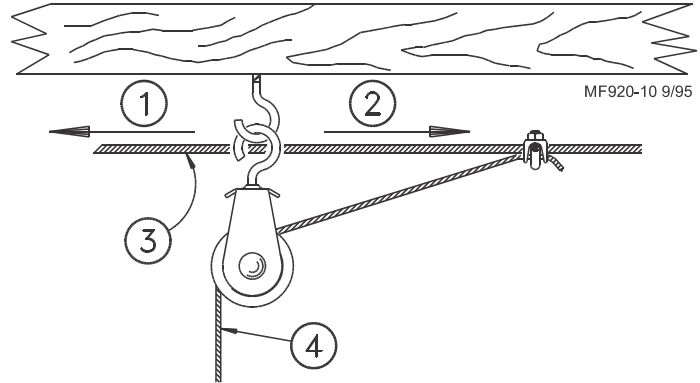

Figure 12.Screw Hook Installation (Side View)
Screw Hooks or Ceiling Hooks may be used to suspend the feeder line. Refer to the appropriate instruction, below. Screw Hook installation is shown in **Figure 12**. Ceiling Hooks installation is shown in **Figure 12** through **19**.
Screw the hook into the truss the full length of the threads to prevent bending. The openings of the screw hooks must be pointed away from the direction of travel when the Power Winch raises the feeder line. (See **Figure 12**.)
2. Thread the end of the 3/32" or 1/8" cable through the pulley toward the winch. Clamp this end to the 3/16" winch cable about 6" (150 mm) from the pulley, using a 3/16 inch cable clamp (See **Figure 12.**). Allow enough drop cable to reach the eye of the Hanger and thread back through Adjustment Leveler.